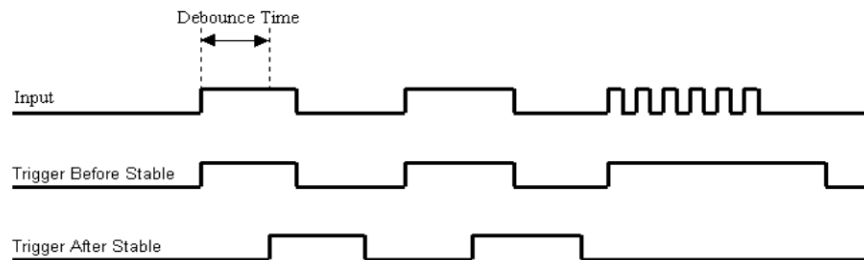

Figure 25. Optimal debounce time for *trigger after stable* mode
*Trigger after stable* mode behaves more like a traditional debounce function: rejecting glitches and only passing state transitions after a required period of stability. Use *Trigger after stable* with electromechanical devices like encoders and mechanical switches to reject switch bounce and disturbances due to a vibrating encoder that is not otherwise moving. The debounce time should be set short enough to accept the desired input pulse, but longer than the period of the undesired disturbance, as shown in Figure 25.